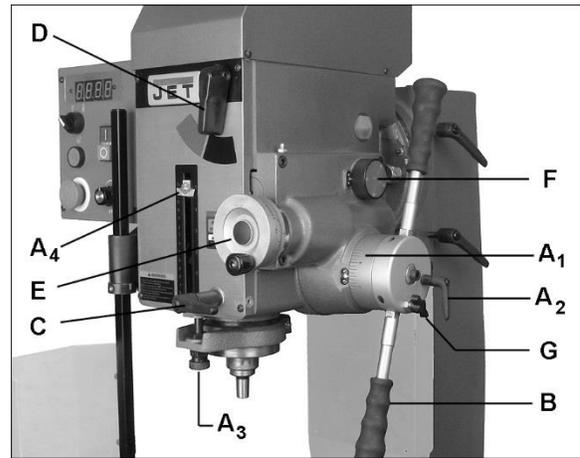

Figure 8-1: operating controls (tapping model 45VSPFT shown)
3. Place speed lever (see D, Figure 8-1) to low-speed range (black).
Refer to Figures 8-1 and 8-2.
See Figures 8-1 and 8-2.
See Figures 8-1 and 8-2:
4. Tighten spindle lock (C, Figure 8-1) at desired height.